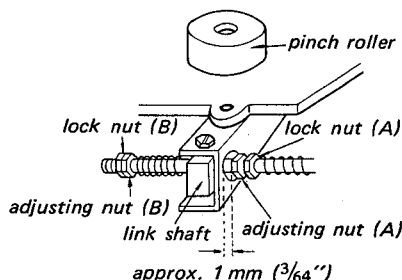

Fig. 3-1-4. Pinch roller pressure adjustment (1)
See Fig. 3-1-4 and 3-1-5. This adjustment should be made after the Reset Spring Housing Adjustment.
- (1) Remove the Reel Panel.
- (2) Set the unit to the play mode.
- (3) Adjust the adjusting nut (A) for 1 mm ($\frac{3}{64}$ "") clearance between the Link Shaft and the adjusting nut (A). See Fig. 3-1-4.